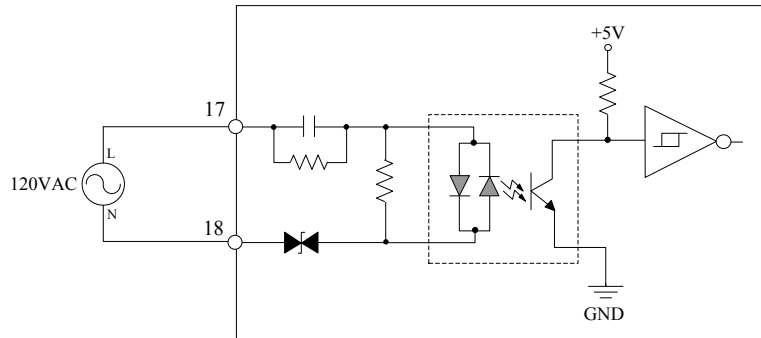

Figure 8.37: Field Power Loss Detection Circuit of LK614
- As shown in Figure 8.37, terminal “17” connects to the L end of field power supply while terminal “18” connects to its N end. LK614 carries out power loss detection by checking the changes of input voltage between these two terminals. In case of any failure, the failure status will be reported to the controller as the diagnosis data.